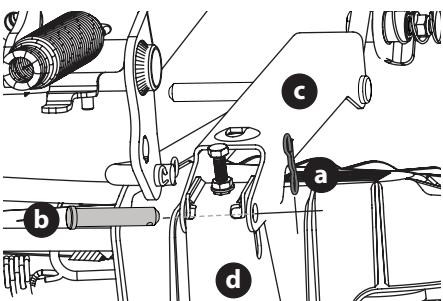

Figure 40
- a. Remove the two bow-tie pins (a) from the clevis pins (b) that secure the lift link brackets (c) to the rear deck lift brackets (d) on the deck. Remove the clevis pins (b) (Figure 40).